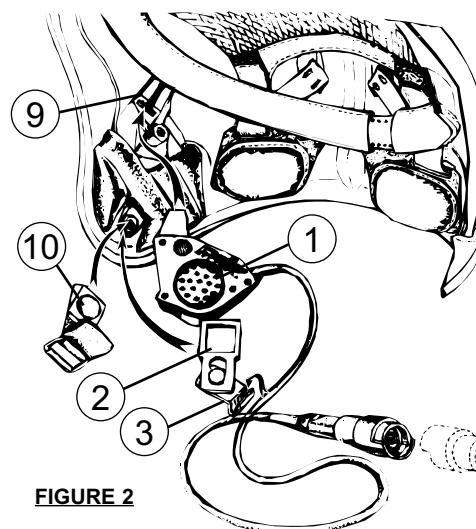

FIGURE 2
Fix the micro-earphone set ① (figure 2) into the specially designed slot ⑨. This is located on the right inside of the helmet (it also serves to secure the head band).